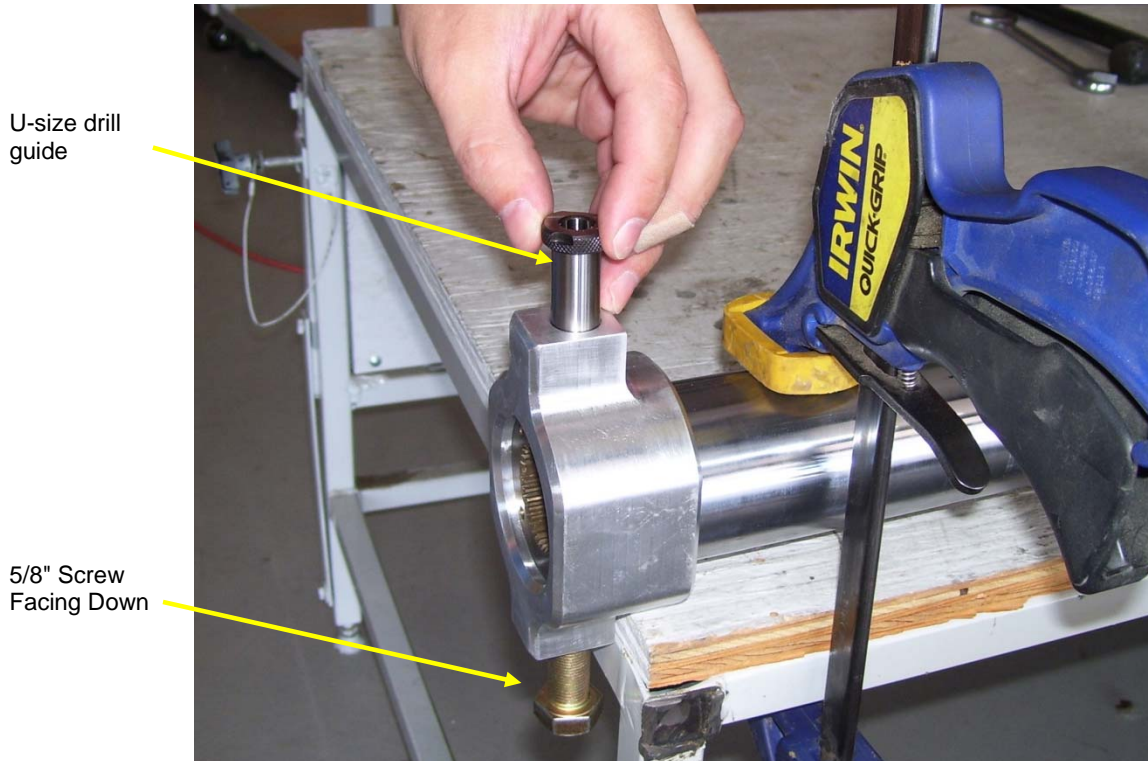

Figure 5-3: Assembly Secured
11. Secure the chrome tube and drill guide sleeve assembly to a work bench with the 5/8 inch screw facing down. Refer to **Figure 5-3**.
14. Secure the chrome tube and drill guide sleeve assembly to a work bench with the 5/8 inch screw facing down. Refer to **Figure 5-3**.